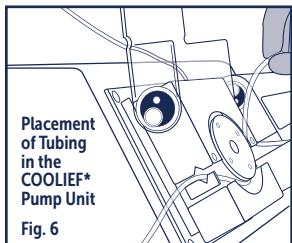

Fig. 6
3. Place the thick-walled tubing coming out of the bottom of the burette into the pumphead of the COOLIEF® Pump Unit. Place the tubing in the channels of the L-shaped bracket to ensure that the tubing is not obstructed while closing the pumphead. Close the lid on the pumphead to clamp down on the tubing. (Fig. 6)